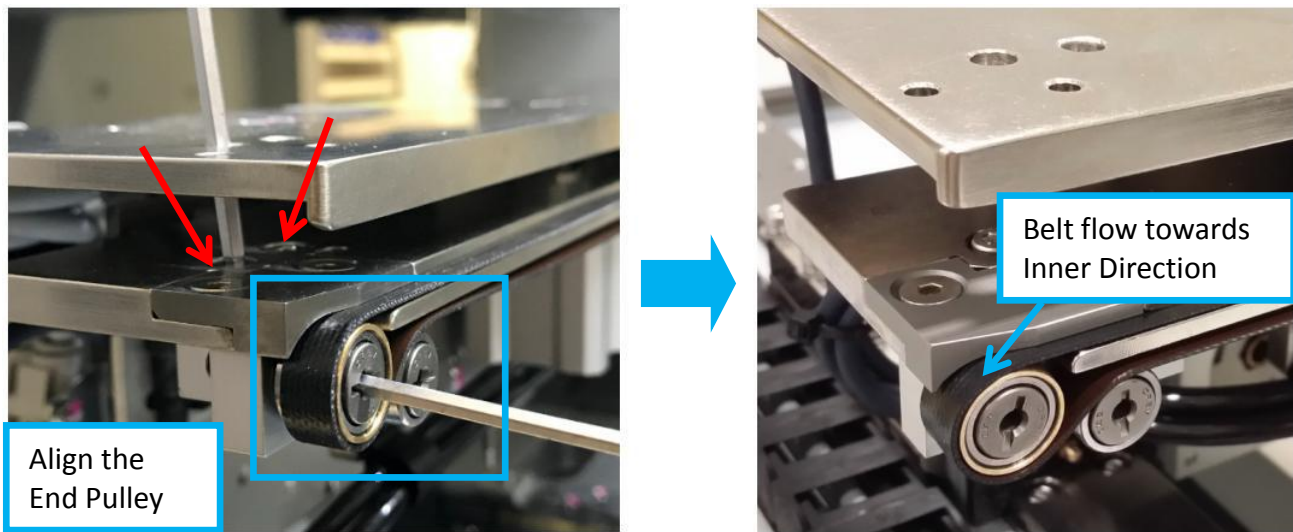

Figure 47 End Pulley Alignment
- g) Align the End Pulley until Belt Flow towards Inner Direction as below Figure 47. Tighten 2 x Screws after desire alignment achieve